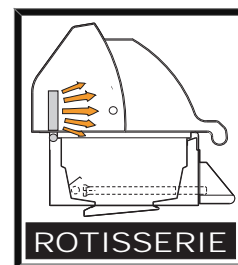

Fig. 14b
- The **Rotisserie burner**, if equipped, delivers the succulent self-basted flavors of chickens, ducks and hams or pork, beef and lamb roasts that only rotisserie cooking can achieve. Also, the radiant infrared unit ensures that you will be enjoying the results much sooner (see Fig. 14b).